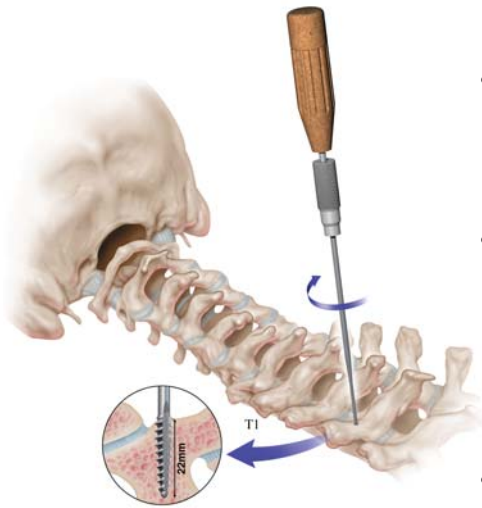

Figure 5
- Tap the pilot hole using the 3.5mm, 4.0mm or 4.35mm Minipolyaxial Tap while maintaining the appropriate trajectory (Figure 5).